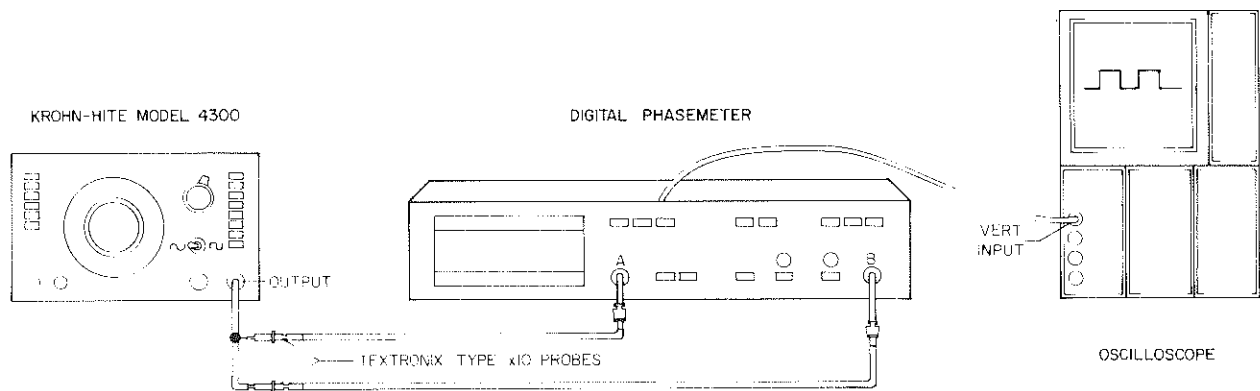

Figure 19. Attenuator Impedance Adjustment Test Set-up
Connect a square wave generator to the phasemeter inputs, using two (2) x 10 probes as shown in Figure 19. Set input attenuators to 0.1-1.2V, phasemeter waveform switch to □. Set the generator frequency to 1 KHz, output to .3V p-p. Connect the oscilloscope, using a calibrated X10 probe to phasemeter TP7. Set the oscilloscope for 10 mv/cm, Cal., AC coupled, horizontal to .2 ms/cm Cal. Adjust the probe connected to input A for a good square wave on the scope. (A slight ringing is normal).